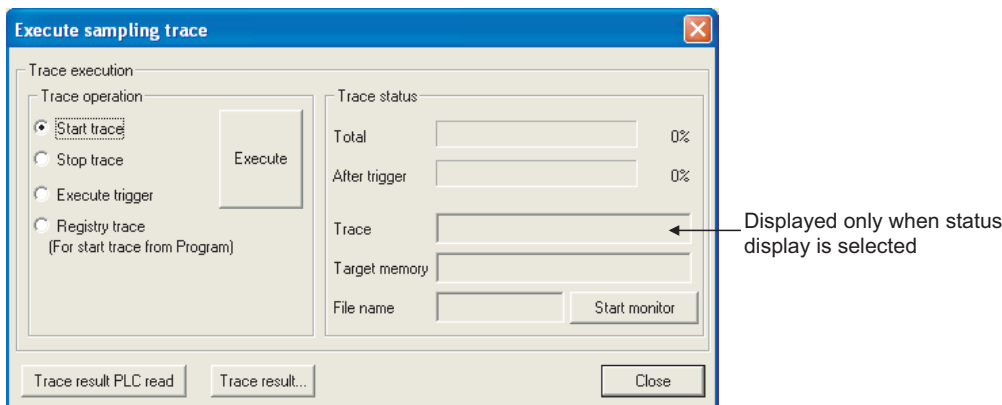

Figure 6.63 Execute sampling trace screen
- 1) Click the **Trace result PLC read** button on the screen shown in Figure 6.63 to read trace results.
- Click the Trace result PLC read button on the screen shown in Figure 6.63 to read the trace result to the personal computer.
- Click the Trace result button on the screen shown in Figure 6.63 to display the trace result.